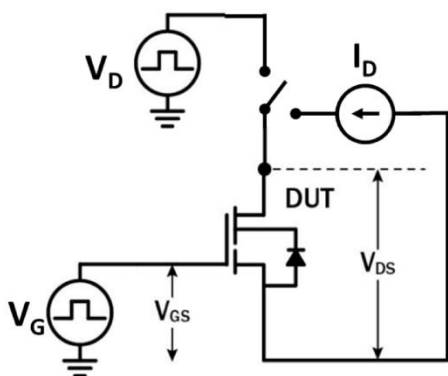

Figure 19. Dynamic  $R_{DS(on)eff}$  Test Circuit
- f. Dynamic on-resistance; see Figures 19 and 20 for test circuit and conditions